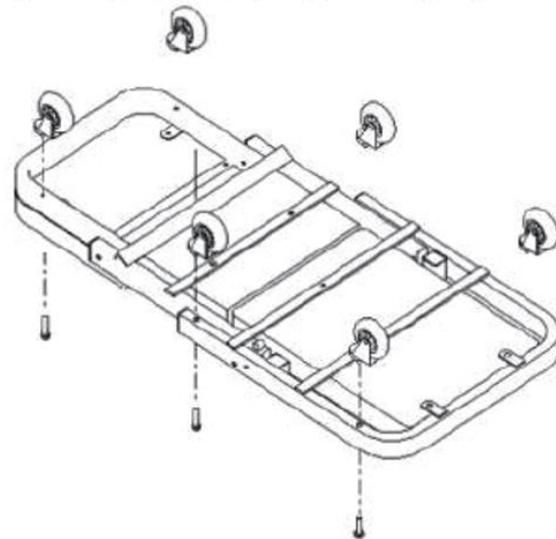

Fig.2
4. Use the hexagon wrench to secure the casters. Insert the nuts (8) from the top and the castors (3) from the bottom as shown in Fig.2 and Fig.3.